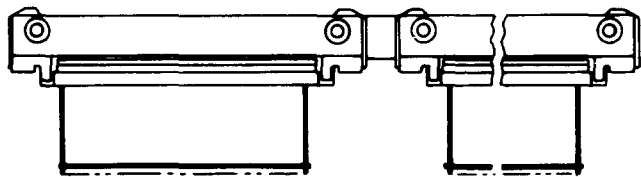

Fig. 13—971A Connector
**2.06 971A:** The 971A connector (Fig. 13) consists of two 947C connectors mounted to a common bracket. The connectors contain 164 terminals and are designed to mate with the 970A connector. The connector is used on the No. 4 ESS.